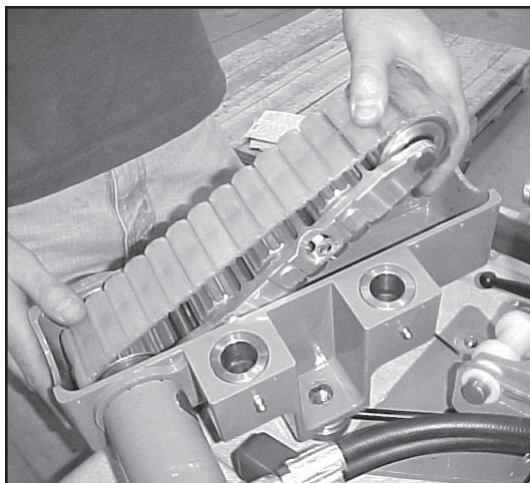

Figure 5
5. Rotate idler track assembly up (Figure 5)